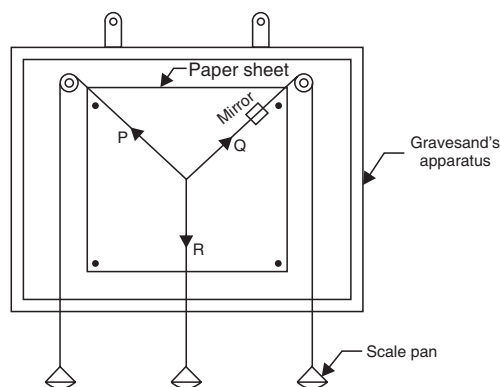

Fig. 1.1
**Procedure.** Refer to Fig. 1.1